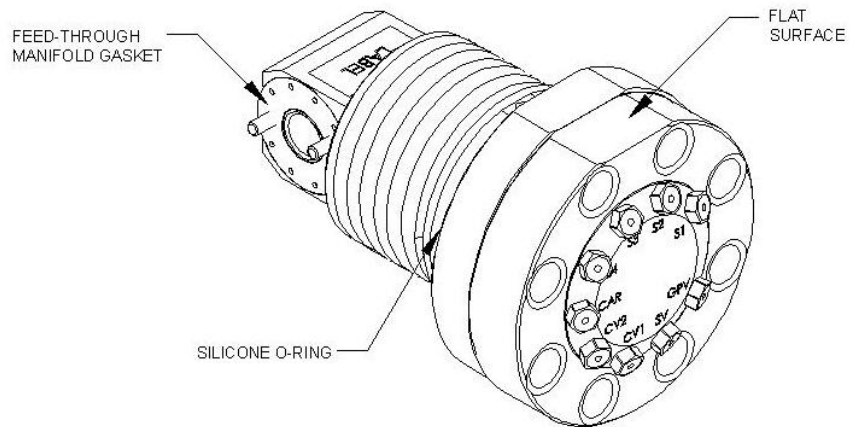

Figure 5-10 Feed-Through Assembly
- 16) On the replacement assembly, install the O-ring and manifold gasket supplied with new feed-through assembly (see Figure 5-10).